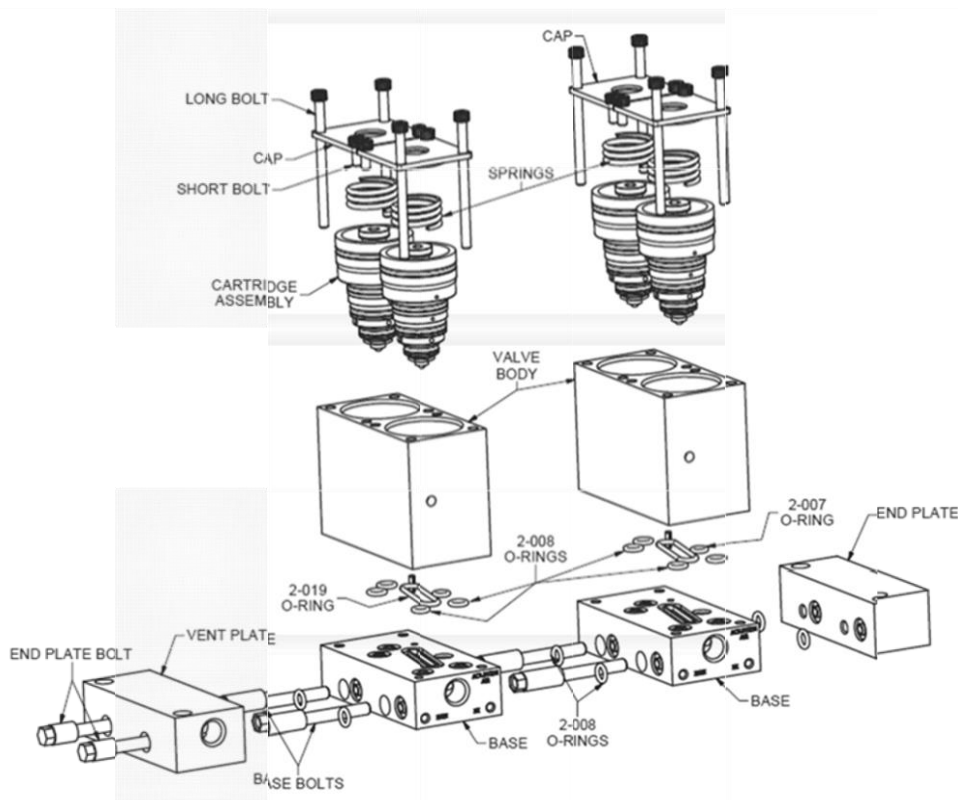

Figure 1: Gen II R-Max Stream Select System Exploded View
- The CYCLOPS Z – Purge Indicator mounts directly to purged enclosure. No additional sheet metal enclosures or plumbing is required. (Refer to Figures 1, 2, 3, & 4)
### Section 6.1 Module Disassembly (refer to Figure 1)
**Module Reassembly** (refer to Figure 1)
## Section 6.2 System Reassembly (refer to Figure 1)